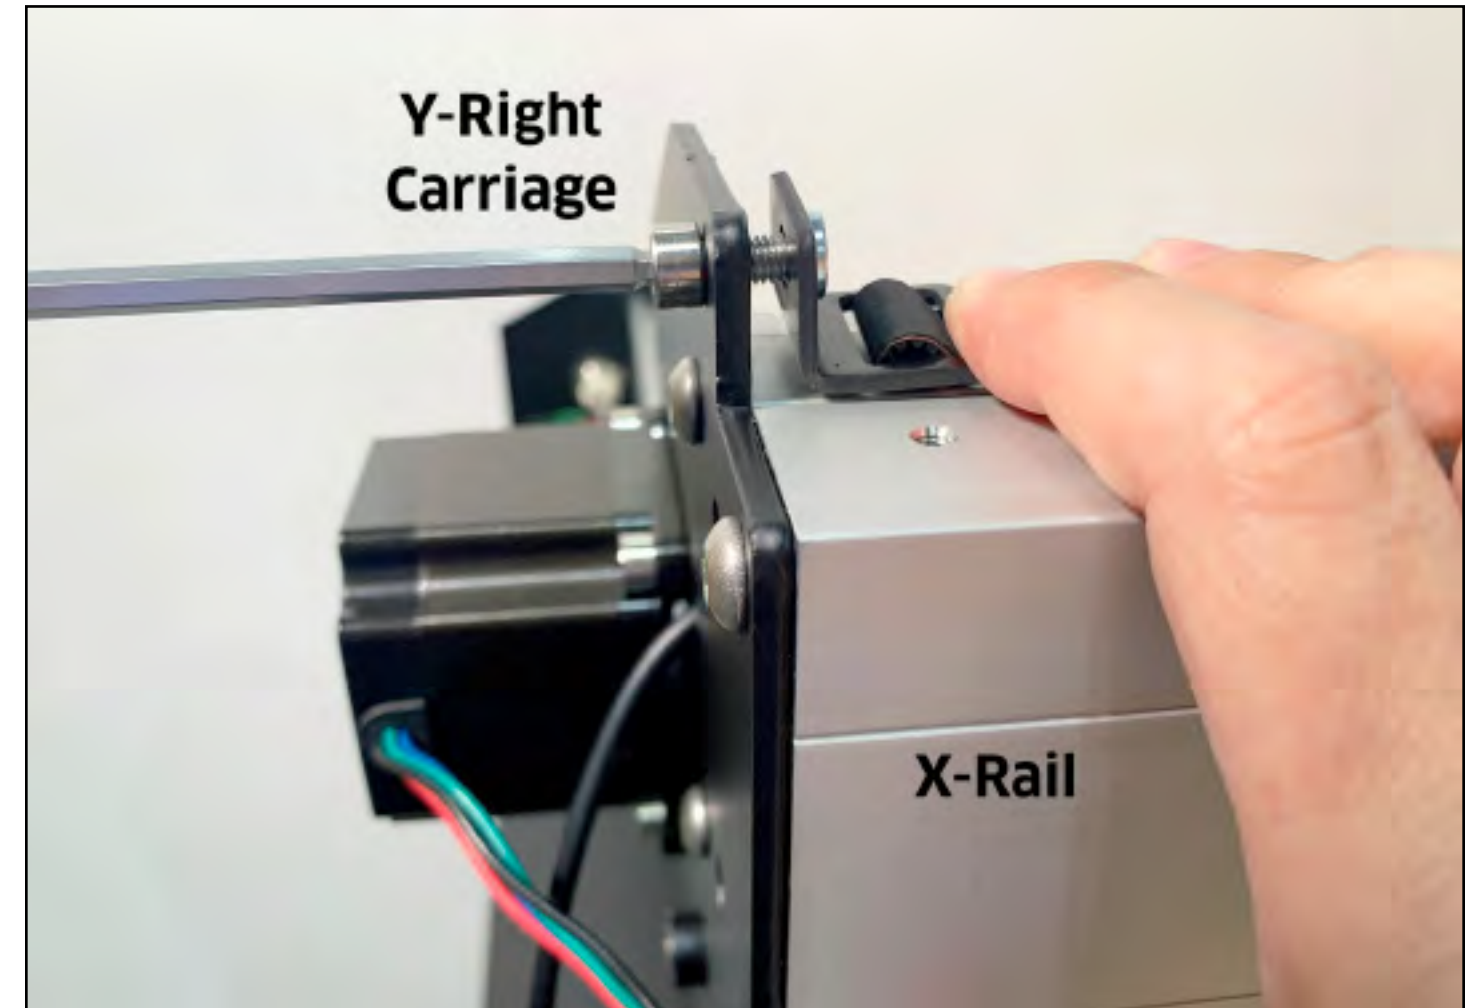

Figure 5-8
11. Adjust the length of the belt so that there is a 2–3mm gap between the clip and the Y-Right gantry plate. See **Fig. 5-8**.
12. Use a 4mm hex key and one (1) M5×12mm SHCS to secure the clip.